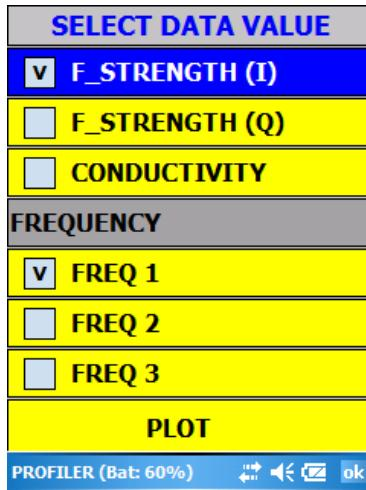

Figure 71: Select Data Value menu.
4. Once a file has been selected, using either the File, Project>File or Review functions, the Select Data Value screen will be displayed (Figure 71).